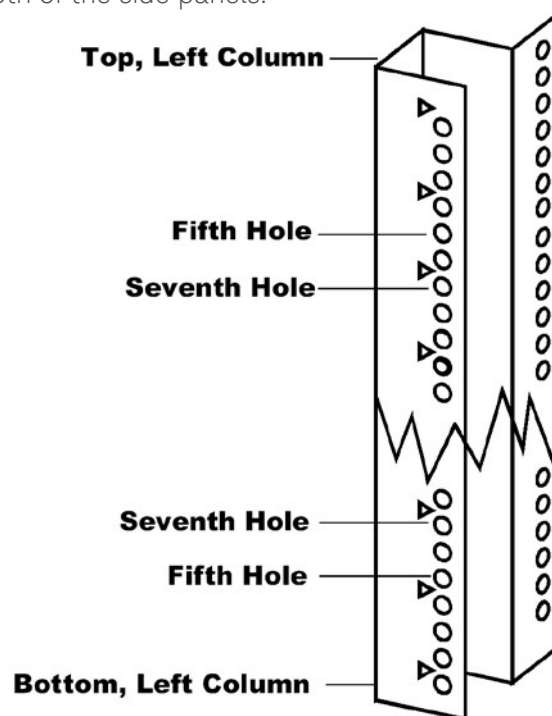

Figure 3. Column
2. Locate holes 5 and 7 from the top and bottom of the rack column. The door brackets attach in these holes. Use the outer accessory holes, not the EIA holes. See Figure 3.